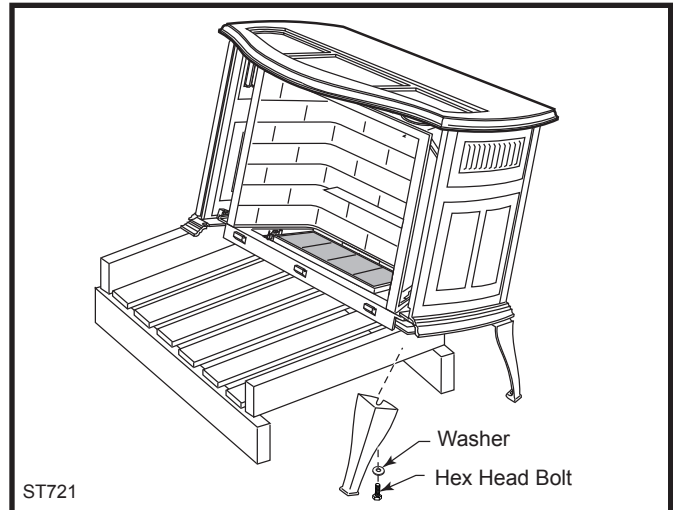
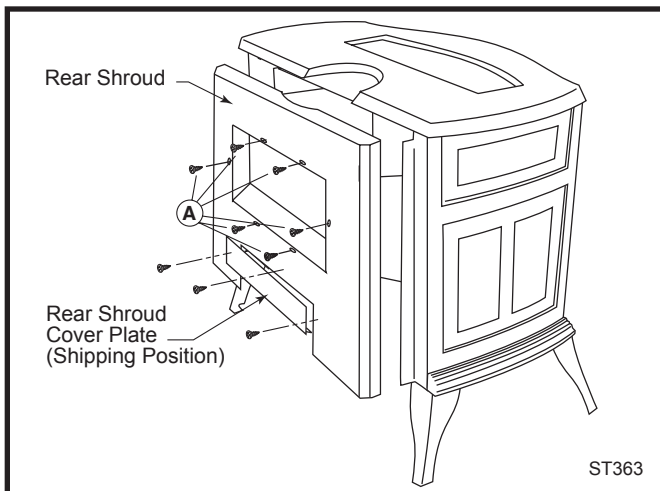

Fig. 9 Carefully tip stove onto back legs. Leave pallet under stove to keep stove from falling fully forward.
Fig. 11 Remove/replace rear shroud.
3. Carefully tip the stove onto its rear legs. Adjust the pallet to allow access to one of the front leg holes. Be sure to leave the pallet under the stove to prevent the stove from falling fully forward. (Fig. 9)
2. Remove the rear shroud. (Fig. 11) Use work gloves to protect your hands. Remove the rear shroud cover plate. Remove the six sheet metal screws ('A', Fig. 9) surrounding the draft hood opening. Remove the shroud and set it aside.